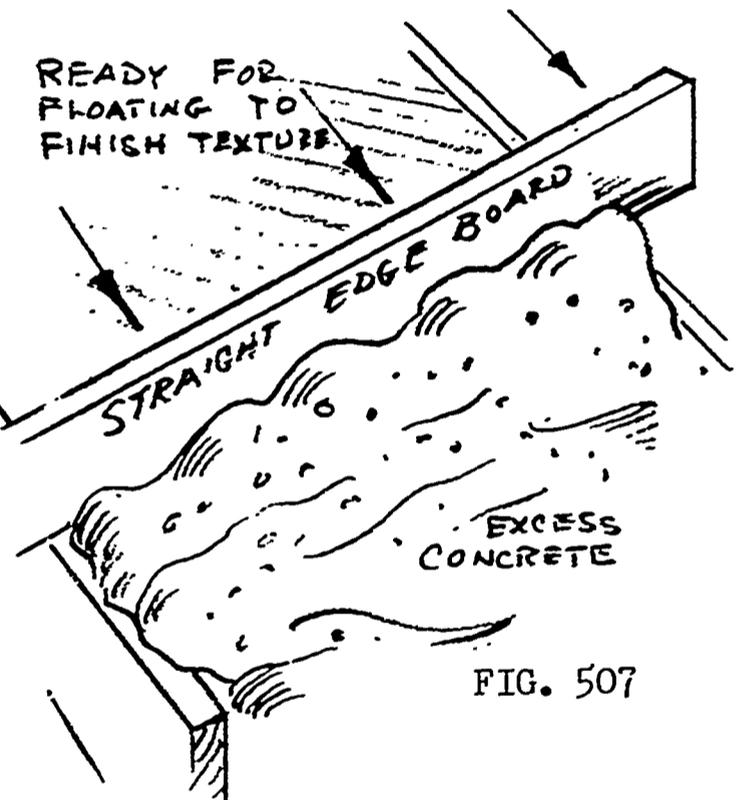

FIG. 507
2. Level off surplus with a rake and screed the entire slab with a straight edge (2x4 or 2x6), using the forms as a leveling device. See figure 507.